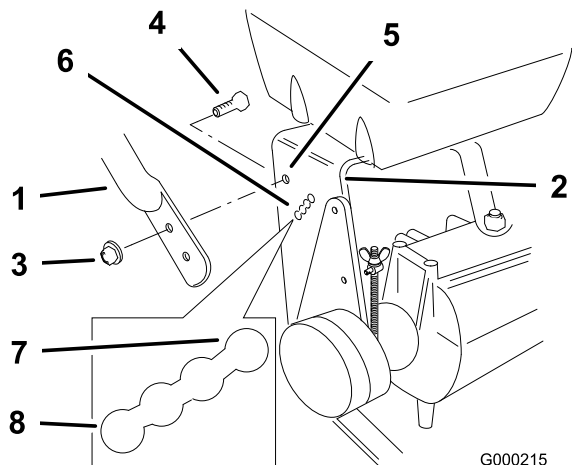

Figure 18
- Loosen the upper flange bolts (3/8 x 1 inch) and the flange nut securing the handle to the rear frame (Figure 18).
- Remove the lower flange bolts (3/8 x 1 inch) and flange nuts securing the handle to the rear frame (Figure 18).